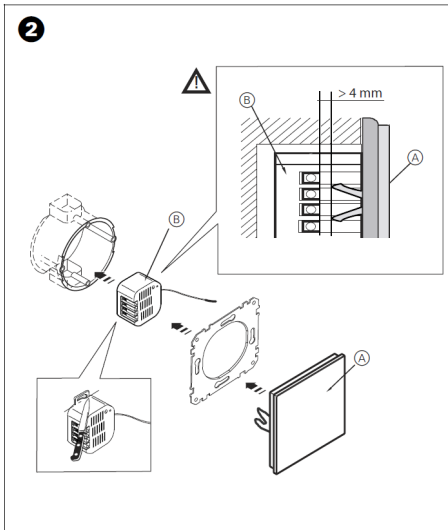

Figure 2 – Mounting the EM6610
Install the dimmer simply "invisibly" near the load to be connected, for example in a flush-mounted installation box with a blanking cover (Fig. 2) or ceiling junction box.
*When a blanking cover or other cover is installed, the distance from the fixing brackets or screws (of the blanking cover or other cover, Fig. 2 A) to the connections of the dimmer (Fig. 2 B) must be at least 4 mm once installed. Suitable covers or a lower installation box might have to be used.*